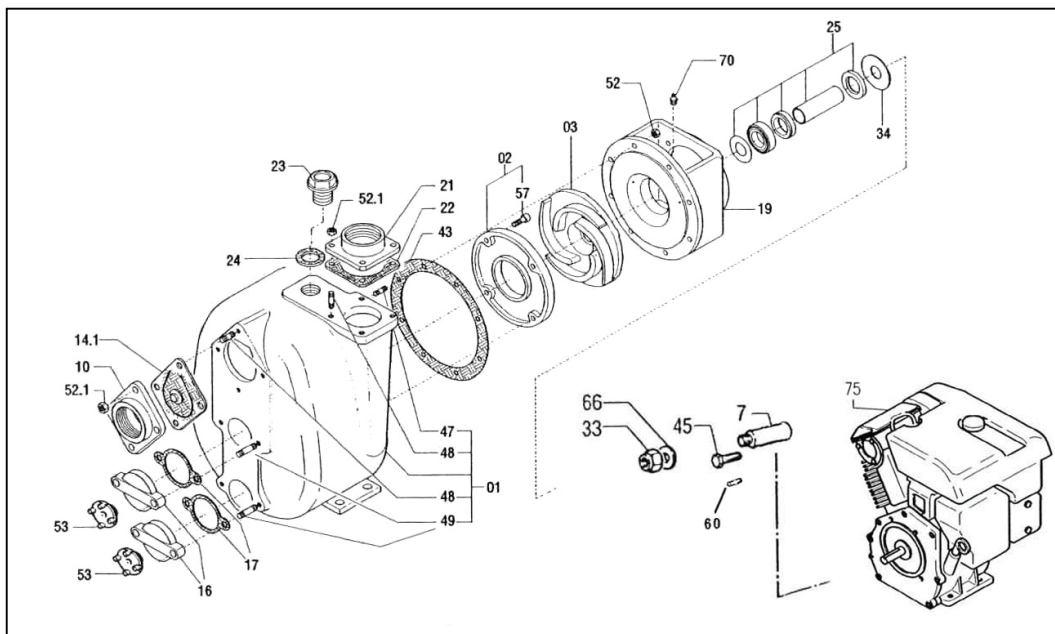

Figure 3
3. Never leave liquid in the pump casing. Drain the casing immediately through the drain plug (figure 3, #16). During winter months and cold weather, the liquid could freeze and damage the pump casing.
5. For extended storage, longer than 6 months, flush the pump casing (figure 3, #01) with a rust inhibitor that is compatible with the pumped fluid and use.